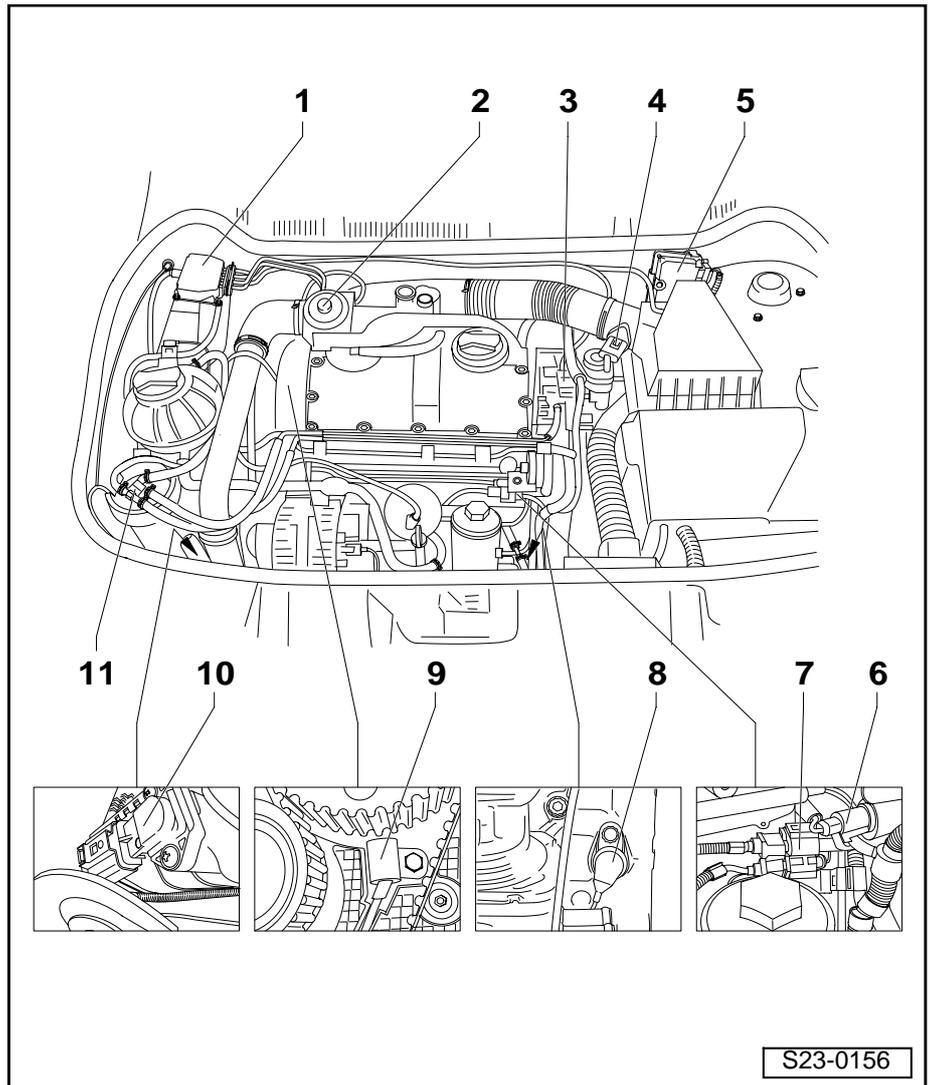

Fig. 1: Components in footwell
- in footwell on the accelerator pedal ⇒ Fig. 1 in **23-1** page 4
- in footwell on the brake pedal ⇒ Fig. 1 in **23-1** page 4
- in footwell at clutch pedal ⇒ Fig. 1 in **23-1** page 4